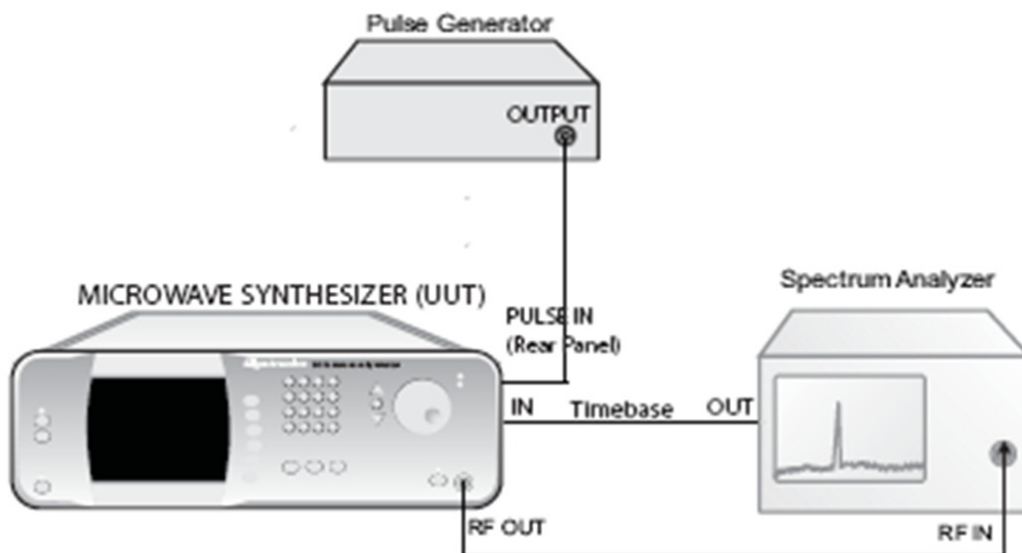

Figure 56: Pulse Modulation On/Off Ratio Test Setup
2.	Connect the equipment as shown in Figure 56 on page 128.